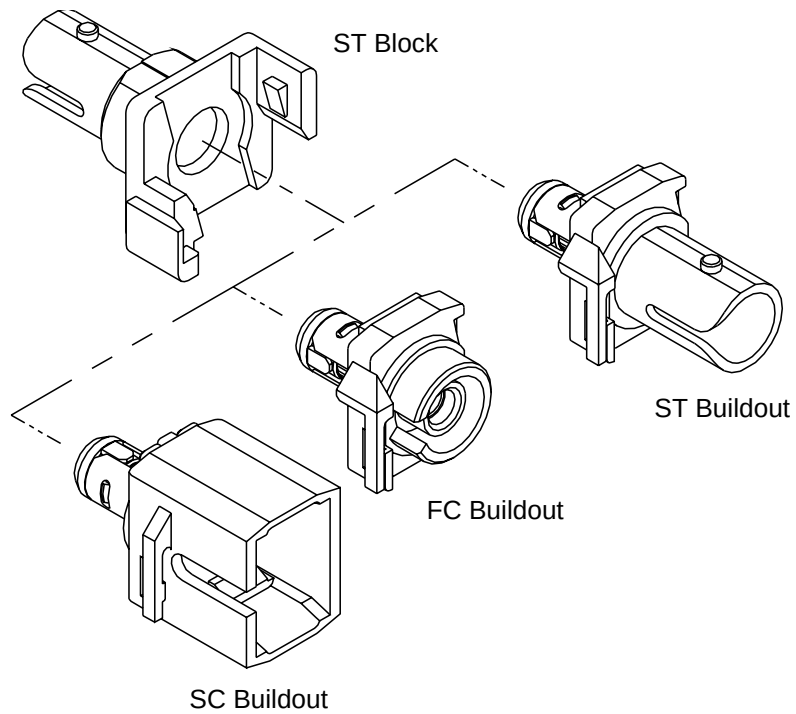

Figure 1 - ST[®] Block and Buildouts
1. Is the buildout being installed or removed (see Figure 1)?